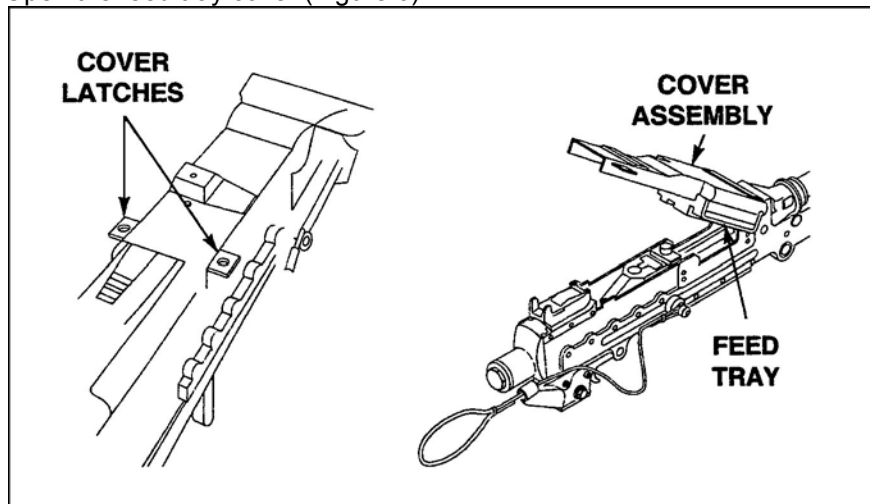

Figure 6. Feed tray and feed tray cover.
- (1) Open the feed tray cover (Figure 6).